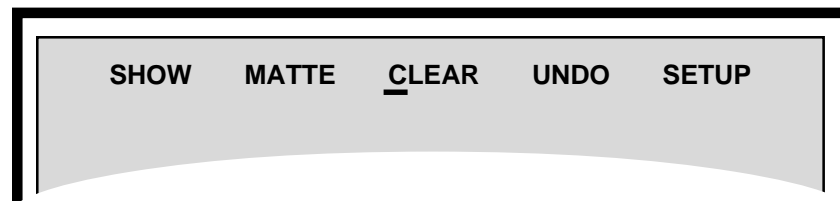

Figure 2.15
2. **Tilt the joystick to the left or right to ensure that the cursor is positioned under CLEAR as shown in Figure 2.15.**
The **Menu Line** will reappear on screen with the cursor under **CLEAR** (refer to Figure 2.15).